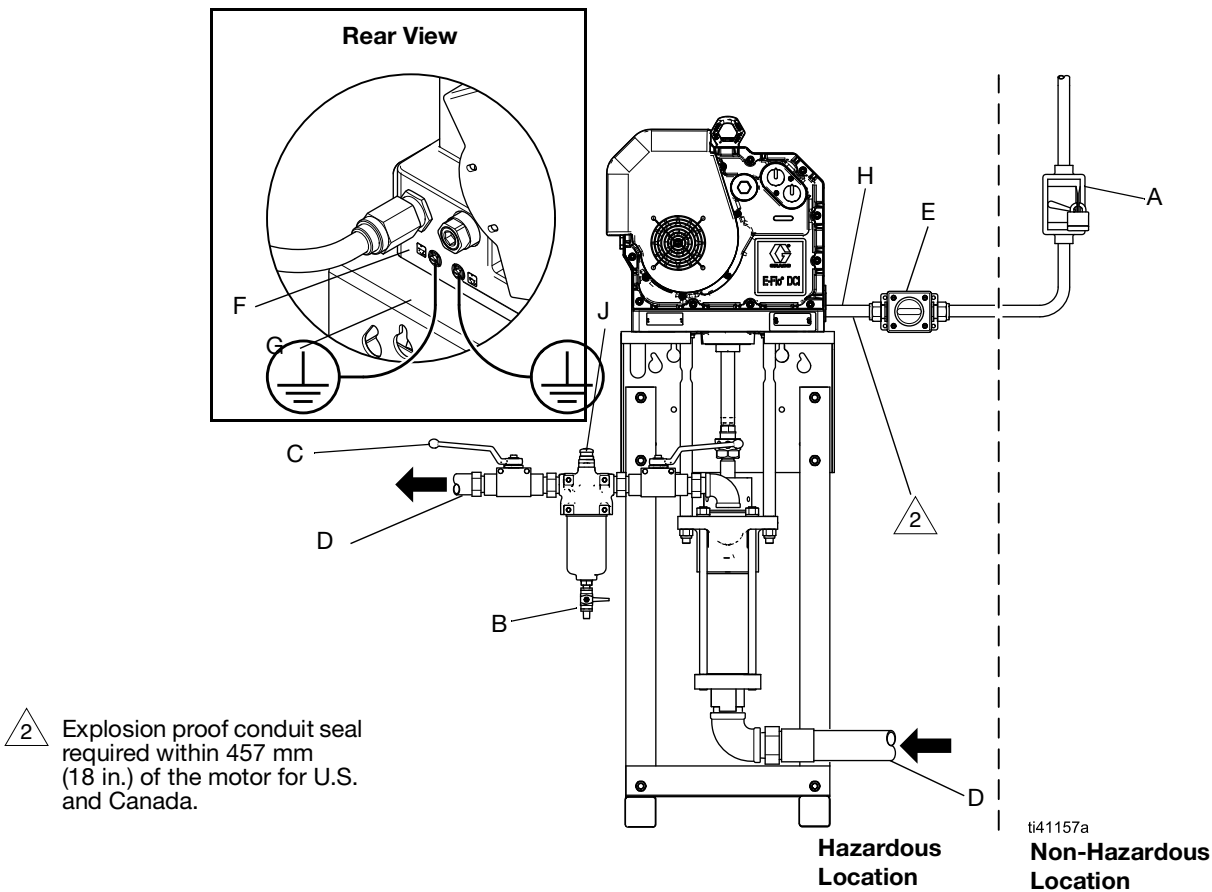

FIG. 1 Typical Installation
The system accessories shown in FIG. 1 are not included. Contact your Graco distributor to design a complete system.
- There must be an electrical disconnect (A) within easy reach of the equipment. See FIG. 1 **Typical Installation**, page 9.
Install accessories as shown in FIG. 1, using adapters as necessary. Make sure they meet the system's size and pressure rating requirements. See **Technical Specifications**, page 37.